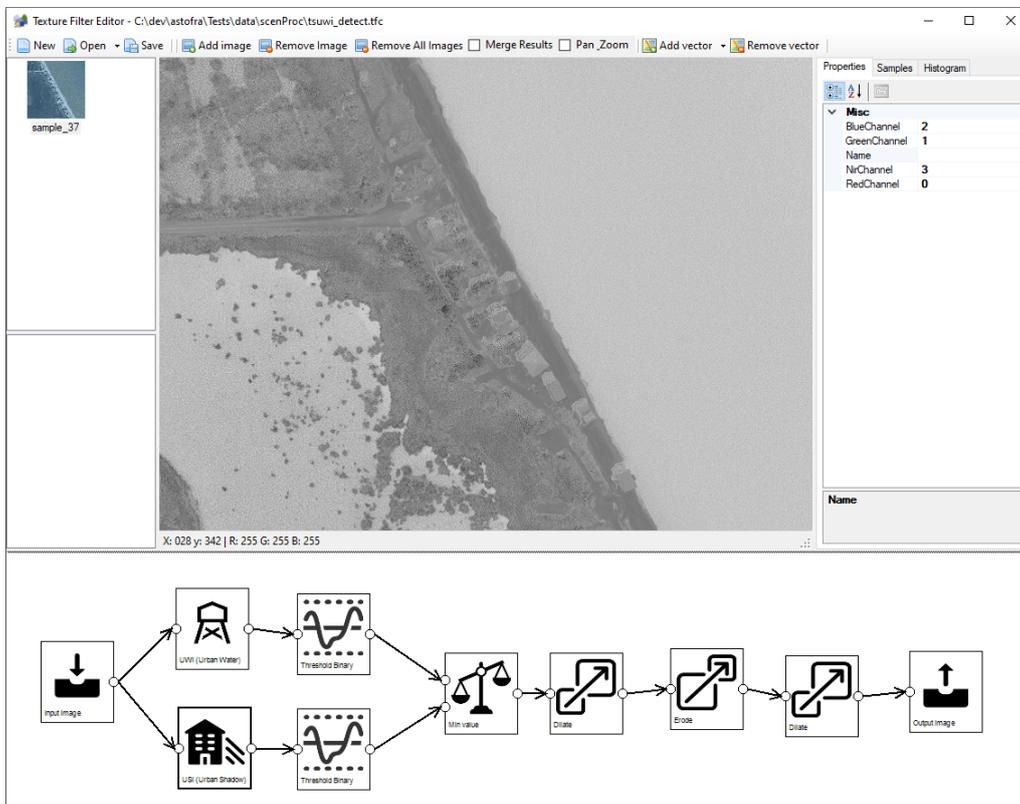

Figure 6.42: The USI value calculated from the input image
4. Calculate the USI value, see Figure 6.42.